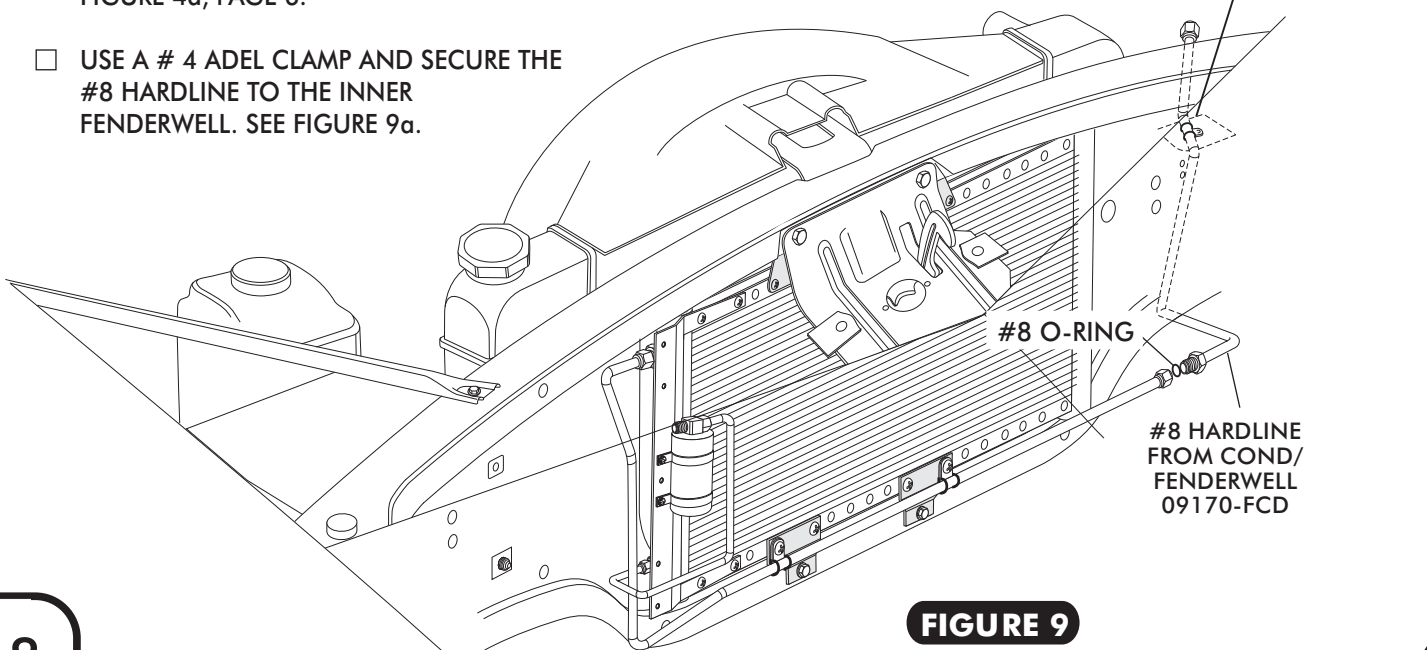

FIGURE 9
- LUBRICATE A #8 O-RING (SEE FIGURE 4a, PAGE 6) AND INSTALL THE #8 HARDLINE FROM CONDENSER/ FENDERWELL AS SHOWN IN FIGURE 9 BELOW. TIGHTEN FITTINGS AS SHOWN IN FIGURE 4a, PAGE 6.